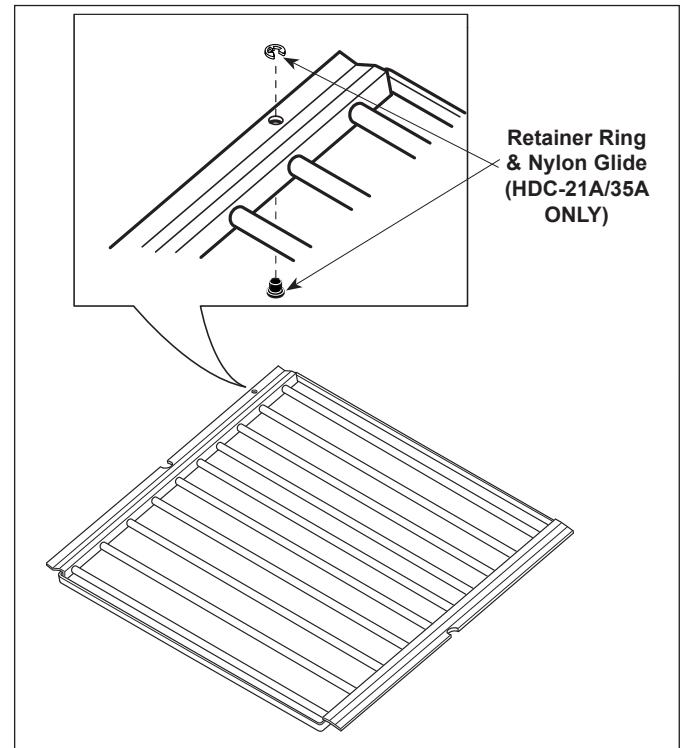

Figure 6. HDC-21A/35A ONLY
Depending on the model, the glides are attached to the Driver Frame or to the unit itself (See Figure 6 and 6A). **The glides eventually wear down with normal use and will require replacement as needed.**
**HDC-21A/35A ONLY:** Remove the four Retainer Rings and glides (Figure 6). Install new glides and secure with Retainer Rings.